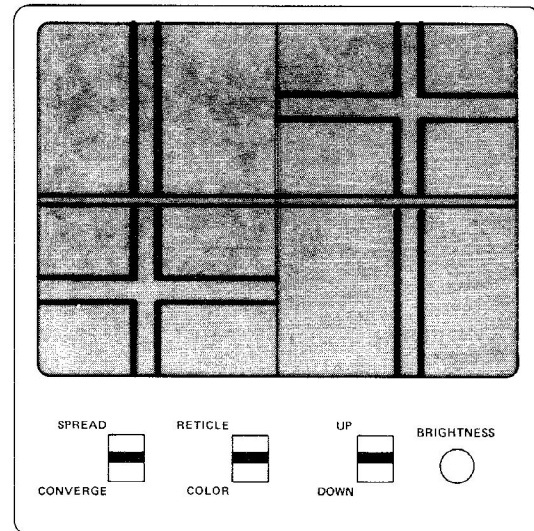

Figure 4-6: Unaligned Wafer
- o Use the FWD, BACK, CW, and CCW controls to align the wafer to the reticle. Figures 4-6 through 4-9 show a wafer as seen on the monitor. When aligned, the streets appear continuous across the screen and centered over the reticle.